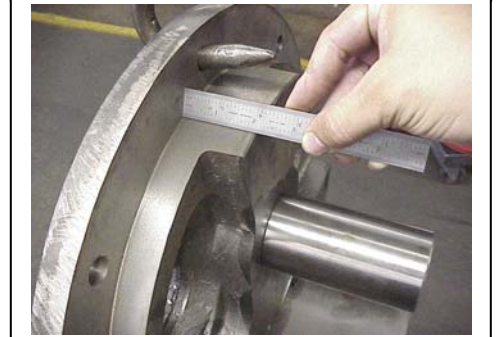

Figure 25
3. Measure the distance between the head mounting surface and the first step on the head. Figure 25.